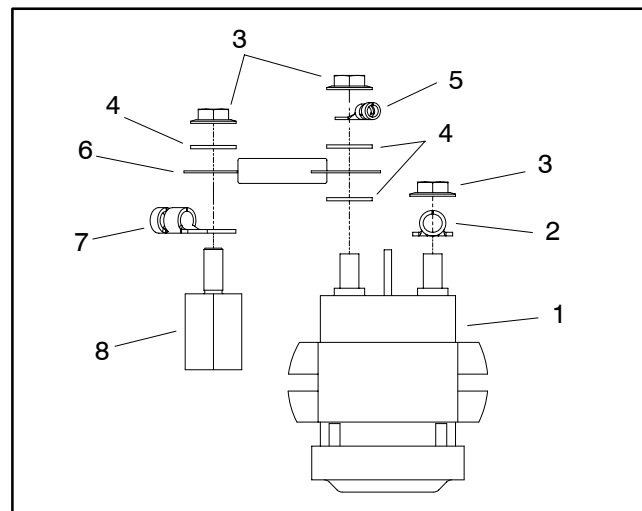

Figure 34
7. Reconnect electrical connections to contactor. If main contactor connections were removed, use Figure 34 as a guide for reattaching cable and wire harness connections.